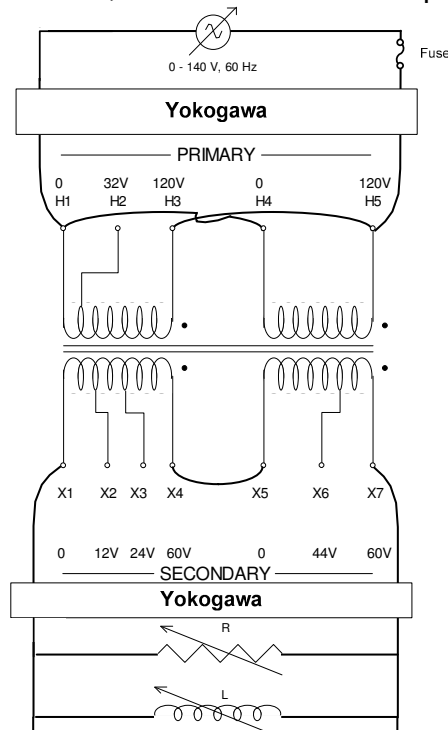

Figure 4 - Transformer with Load Attached to the Secondary.
- 2.6 Switch the supply off and remove the jumper. Connect channel 2 of the Yokogawa to the secondary and apply a load of 150 Ω , 0.8 H and 1.6 H all in parallel, as shown in Figure 4.